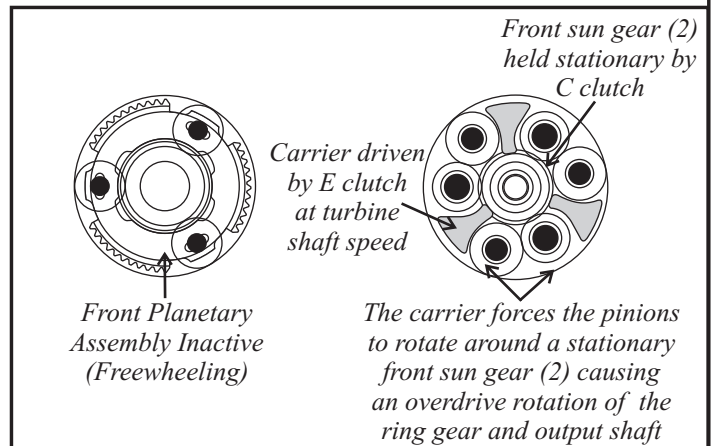

Figure 13
**Powerflow in 6th gear:** The B clutch is released while the E clutch is still applied driving the double planetary output carrier at turbine shaft speed. The C clutch applies which now holds the larger (#2) sun gear in the double planetary output carrier. The reaction of the double planetary output carrier spinning at turbine shaft speed forcing the long pinions to rotate around a stationary larger (#2) sun gear, causes the rear internal ring gear and output shaft to rotate in an approximate overdrive ratio of 0.691:1 (Figure 13).